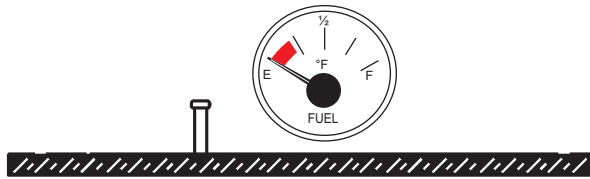

Figure 39. Full Fuel Tank
3. **NEVER overfill the fuel tank** — It is important to read the fuel gauge when filling the trailer fuel tank. **DO NOT** wait for fuel to rise inside the filler neck (Figure 39).